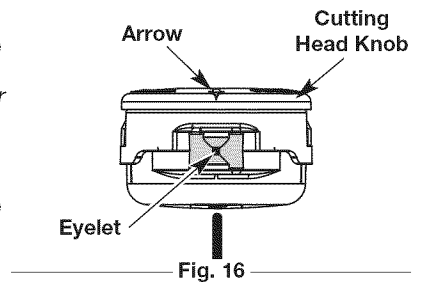

Fig. 16
1. Align the arrows on the cutting head knob with the outer spool eyelets, if they are not already.(Fig. 16)